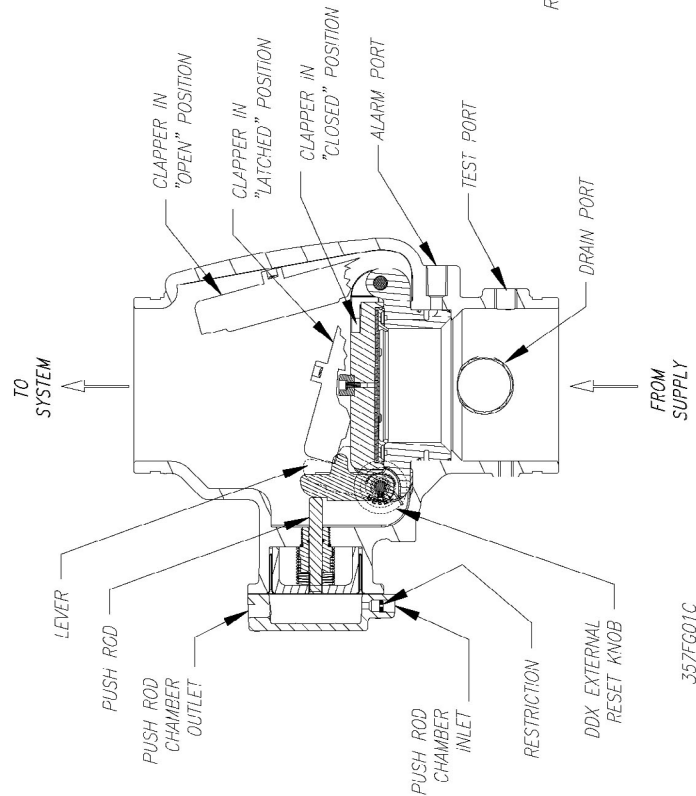

Fig.1
The Model DDX-LP Dry Pipe Valve is a hydraulically operated, differential-type valve (see Fig 1.) designed for use as a primary control valve in a low pressure dry pipe valve system. The trim set used with the Model DDX-LP Dry Pipe Valve contains the Model Model LP Dry Valve Actuator releasing device. This Actuator allows the system's air or nitrogen pressure requirement to be considerably less than the available water supply pressure (see Table A). The following benefits are a direct results of lower air pressure:
5. System maintenance is simplified since priming water is not required and the Dry Pipe Valve can be reset externally without cover removal. This is accomplished by pushing in and turning the external reset knob at the rear of the Dry Pipe Valve (see Fig.1). This feature provides a significant system-restoration time advantage.
The Model DDX-LP Dry Pipe Valve is shown in both closed and open positions in Fig. 1. In the closed position, the supply pressure acts on the underside of the clapper and also on the push rod through the push rod chamber's inlet restriction. The resultant force due to the supply pressure acting on the push rod is multiplied by the mechanical advantage of the lever and is more than sufficient to hold the clapper closed against normal supply pressure surges.
After system shutdown, resetting the Model DDX-LP Dry Pipe Valve is quite simple. Doing so only requires pushing in and turning the reset knob at the rear of the valve (see Fig. 1). The external reset feature of the Model DDX-LP Dry Pipe Valve provides a means for simple, economical system testing, which is one essential facet of a good maintenance program. The external reset feature does not, however, eliminate another important facet of good maintenance, namely, periodic cleaning and inspection of the internal valve parts.